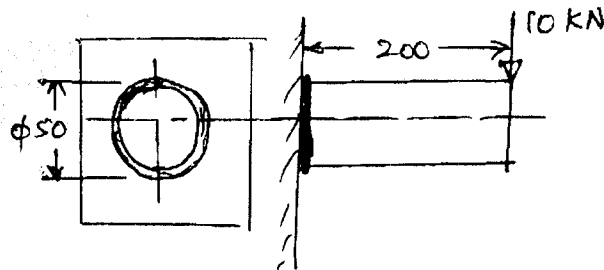

Fig. Q7 (b) All dimensions in mm
- b. A circular shaft 50 mm in diameter is welded to a support by means of a fillet weld and loaded as shown in Fig. Q7 (b). Determine the size of weld if the permissible shear stress in the weld is limited to 100 MPa. (10 Marks)